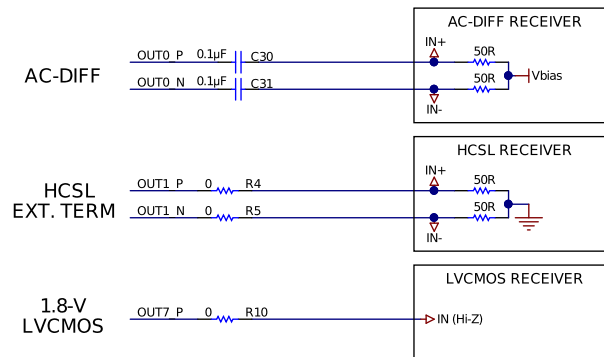

Figure 64. LMK05318 Reference Schematic Example
Figure 64 shows a reference schematic to help implement the LMK05318 and its peripheral circuitry. Power filtering examples are given for the core supply pins and independent output supply pins. Single-ended LVCMOS, AC-coupled differential, and HCSL clock interfacing examples are shown for the clock input and output pins. An external LVCMOS oscillator drives an AC-coupled voltage divider network as an example to interface the 3.3-V LVCMOS output to meet the input voltage swing specified for the XO input. The required
- For a 3.3-V LVCMOS driver, follow the OSC clock interface example in Figure 64. Power the OSC from a low-noise LDO regulator or optimize its power filtering to avoid supply noise-induced jitter on the XO clock.
- Reference inputs: Follow the LVCMOS or differential clock input interface examples in Figure 64 or Clock Input Interfacing and Termination.
- Clock output Interfacing: Follow the single-ended or differential clock output interface examples in Figure 64 or Clock Output Interfacing and Termination.
- Power all the VDD pins with proper supply decoupling and bypassing connect as shown in Figure 64.